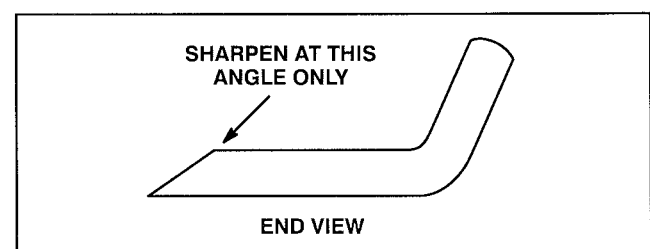

Figure 27
5. Inspect cutting edges of all blades. Sharpen the cutting edges if they are dull or nicked. Sharpen only the top of the cutting edge and maintain the original cutting angle for best performance (Fig. 27). The blade will remain balanced if same amount of metal is removed from both cutting edges.